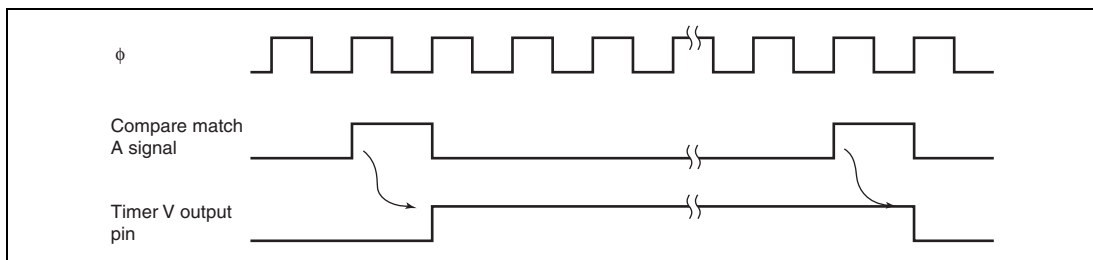

Figure 10.6 TMOV Output Timing
4. When a compare match A or B is generated, the TMOV responds with the output value selected by bits OS3 to OS0 in TCSR.V. Figure 10.6 shows the timing when the output is toggled by compare match A.